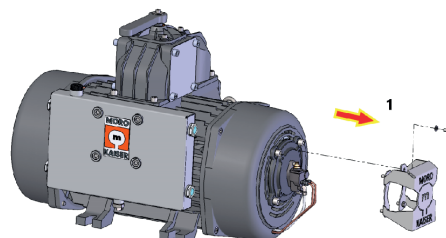

Fig. H.9 - Phase 0050
- Remove 4 M8x20 screws (**pos.1 Fig. H.9**) (spanners ch13).